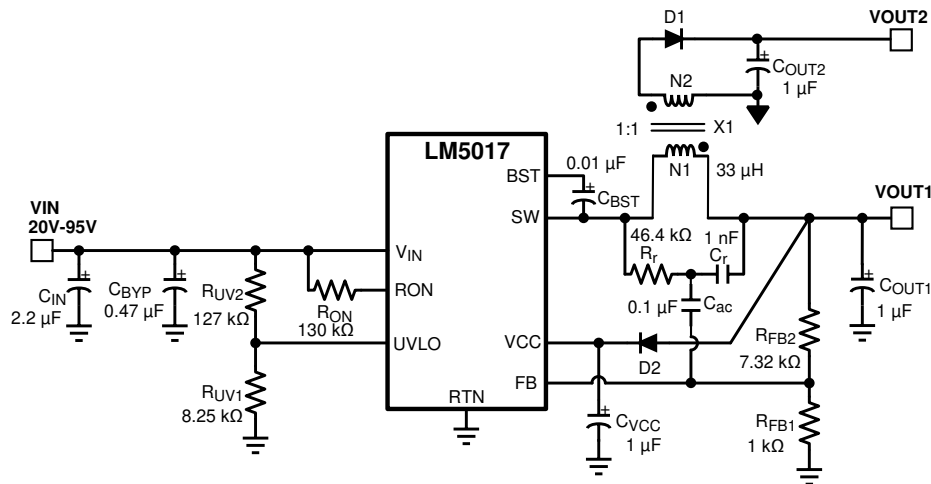

Figure 8-5. Typical Isolated Application Schematic
An isolated supply using the LM5017 is shown in Figure 8-5. Inductor (L) in a typical buck circuit is replaced with a coupled inductor (X1). A diode (D1) is used to rectify the voltage on a secondary output. The nominal voltage at the secondary output (VOUT2) is given by Equation 20.